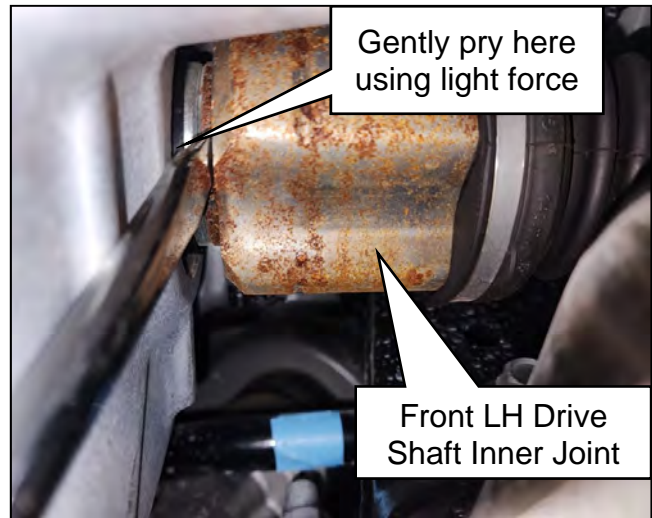

Figure 3
- a. Place a long flat-blade screwdriver between the Front LH Drive Shaft and the transaxle case, as shown in Figure 3.